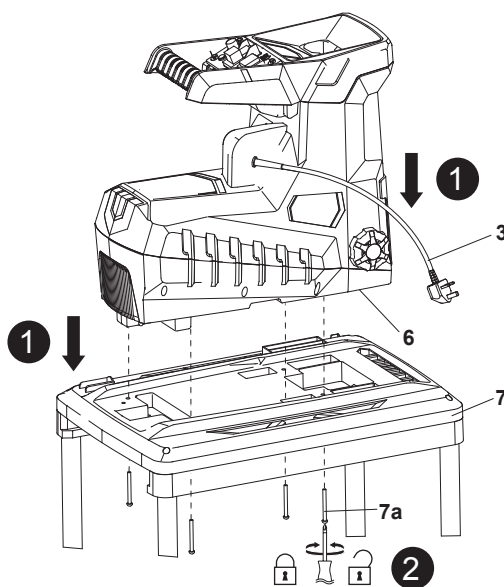

Fig. 4
1. Lift the motor unit. Align discharge chute (6) with the opening of base plate (7) and place the motor unit onto the base plate (7) (Fig. 4, step 1).
2. Ensure that the motor unit sits properly in position and the power cord (3) is not squeezed by the base plate (7).
3. Secure the connection with four sets of screw assembly (7 a) from the bottom of the base plate (7) (Fig. 4, step 2).